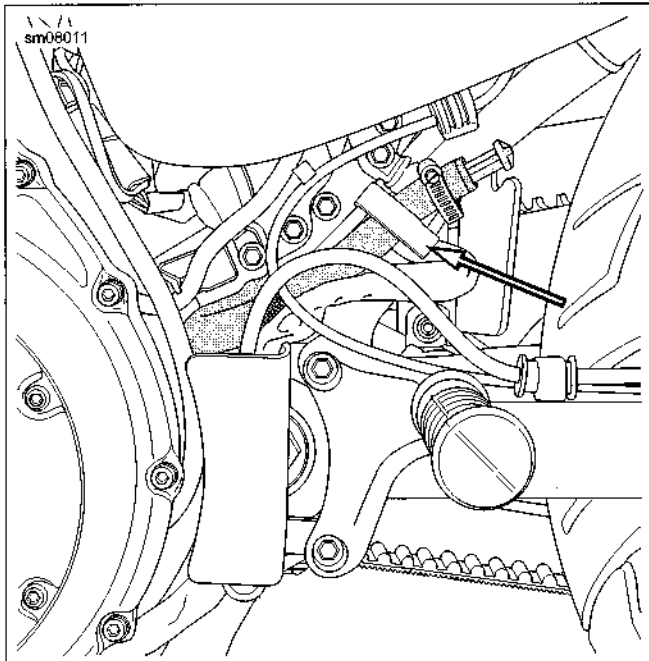

Figure 1-4. Drain Hose Clip
4. See Figure 1-4. Pull drain hose clip from frame tube.
10. See Figure 1-4. Route drain hose alongside frame tube.